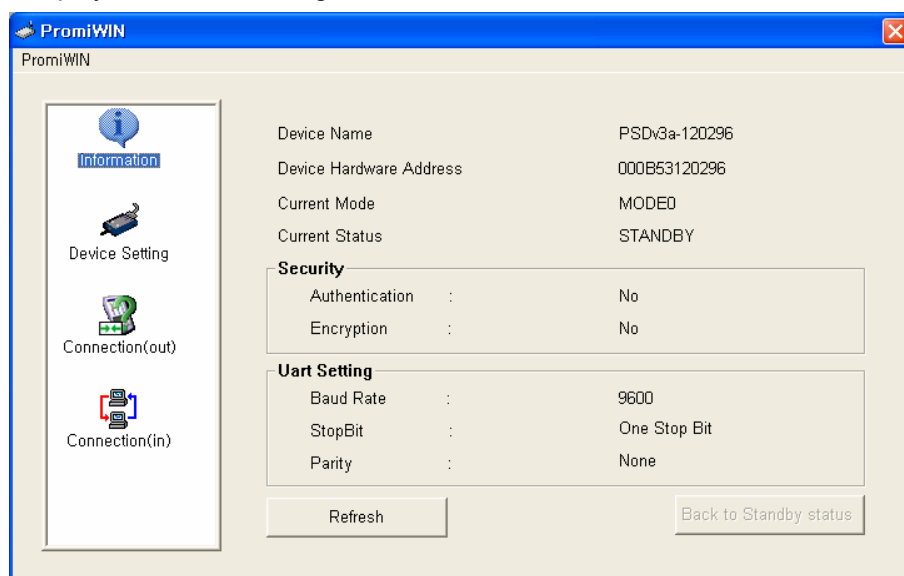

Figure 1
4. Select **Promi-SD → Start Configuration** in the menu. **Information** will be displayed as shown in Figure 1.